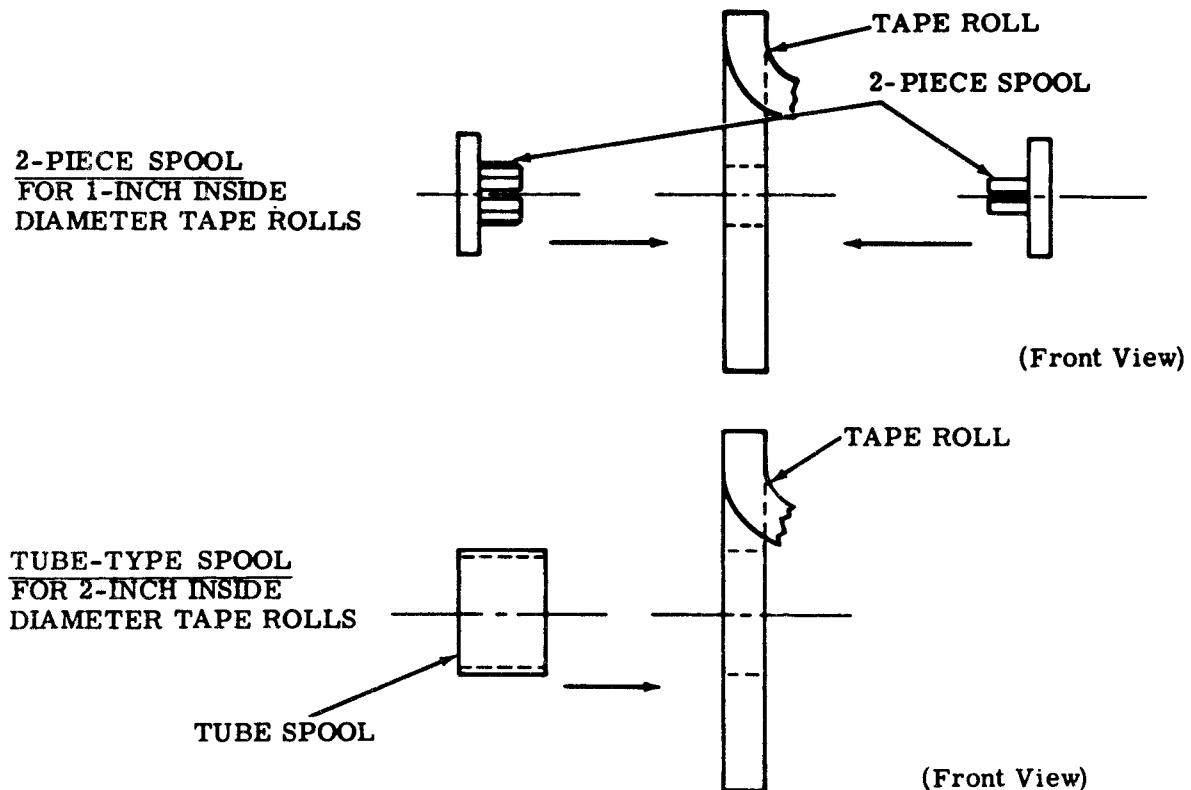

Figure 18 - Tape Roll and Tape Spool Assembly
**6.02** Figure 18 illustrates the installation of a tape spool in a tape roll.